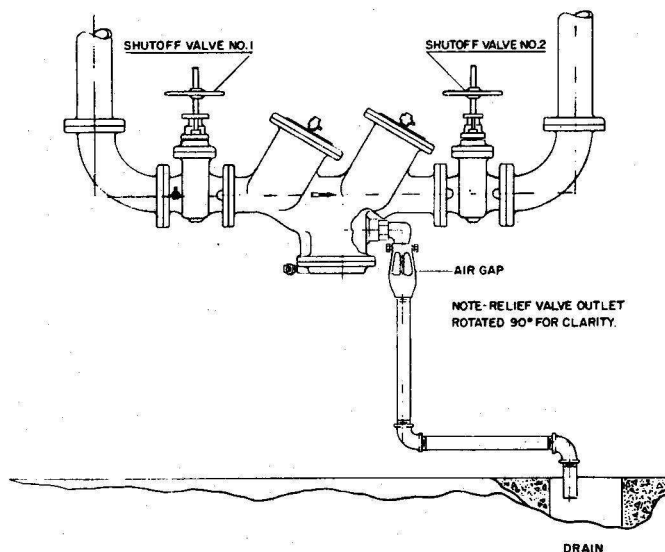

FIGURE 3
B. COLD CLIMATE INDOOR INSTALLATION (Fig. 3)
- D) In no case should the relief valve discharge be solidly piped into a sump, sewer, drainage ditch, etc. An air gap must be provided between the relief valve opening and the discharge pipe (see Figure 3).